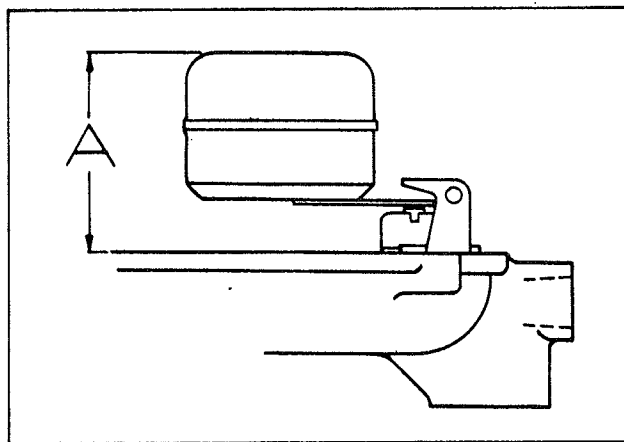

Fig. 7. Float Setting
1. Insert packing (9) in open side of packing retainer (10) and place assembly on C161-72-1 bushing driver with packing facing small end of driver.
3. Insert throttle shaft and lever assembly (14) in throttle body. Rotate shaft to wide open; then insert throttle plate (3) in shaft and rotate to closed position, holding plate in position with fingers. Make certain beveled sides of plate fit against throttle bore when plate is closed.
4. Start throttle plate screws (2), leaving screws loose. Close throttle plate several times, making sure plate is centered in throttle bore. Then tighten screws, using small screwdriver.
5. Install idle adjusting needle (5) and friction spring (4) in threaded passage at side of throttle body. Turn needle in lightly against its seat, then back out needle 1-1/4 turns as a preliminary adjustment.
6. Install idle jet (16) in machined surface of throttle body, using a small screwdriver.
7. Install fuel valve seat (20) and fiber washer (19), using C161-82 wrench.
8. Install venturi (54) in throttle bore, large opening end first. Then place new bowl to body gasket (21) on machined surface of throttle body, making sure venturi flange is set in throttle body recess below gasket.
9. Install fuel valve needle (20) in seat and position float assembly (18) in hinge bracket.
10. Insert float axle through hinge bracket and float lever bushing from side opposite slot in hinge bracket with fingers only. Then press float axle (17) through slotted side of bracket, using handle of screwdriver.
11. To insure correct fuel level in the float chamber, check distance "A" from top of floats to machined surface of throttle body (no gasket) with throttle body inverted, see Figure 7. This dimension should be 1-5/32" plus or minus 1/32". To increase